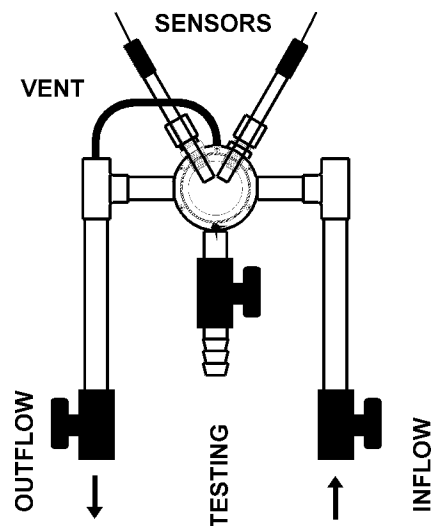

Figure 5 – Flow Cell Assembly
- even better, in a sensor cell mounted on the bypass line (Figure 5).
For additional ease of installation and maintenance, it is also recommended to mount the sensors in the optional Flow Cell Assembly as shown in Figure 5. It includes: